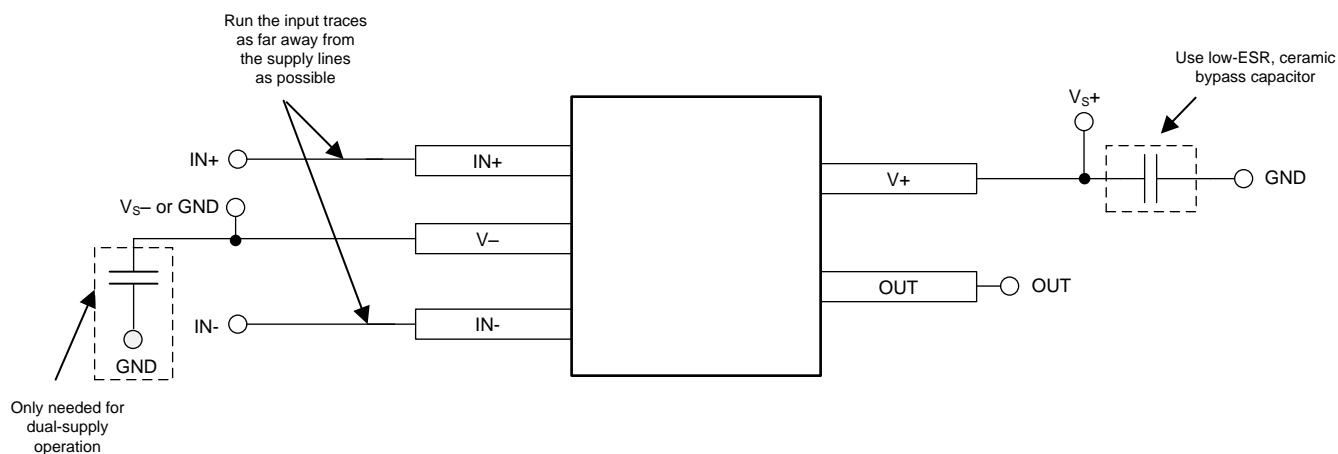

Figure 12. Comparator Board Layout
- To minimize supply noise, place a decoupling capacitor (0.1- μF ceramic, surface-mount capacitor) as close as possible to V_S as shown in Figure 12.